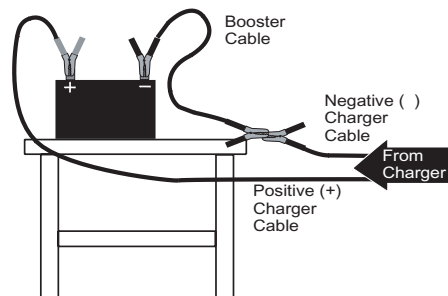

Figure 6. Connecting Outside The Vehicle
2. Check the polarity of the battery terminals (see Figure 6). The POSITIVE terminal should be marked POSITIVE, POS, + or P. The NEGATIVE terminal should be marked NEGATIVE, NEG, – or N.